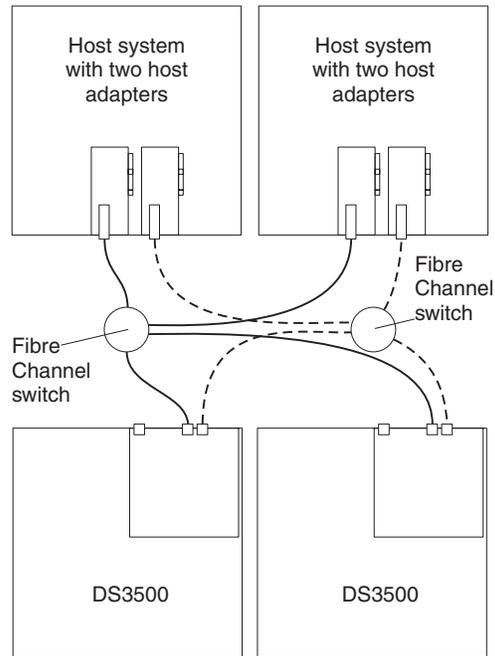

Figure 56. Example of two storage subsystems in a dual Fibre Channel SAN environment
- Two storage subsystems in a dual SAN fabric configuration, as shown in Figure 56 on page 59
In Figure 56 on page 59, the Fibre Channel switches are not connected together. Each switch forms its own SAN fabric.